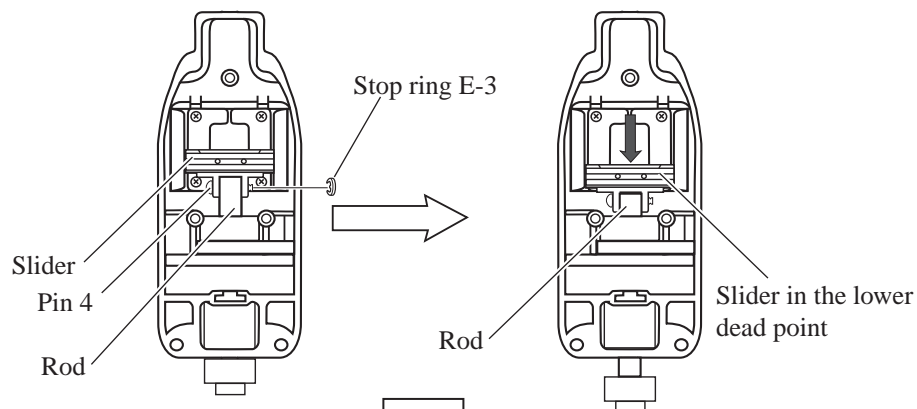

Fig. 5
2. Take off stop ring E-3 with small flat head screwdriver. And push slider to the lower dead point. See Fig. 5.